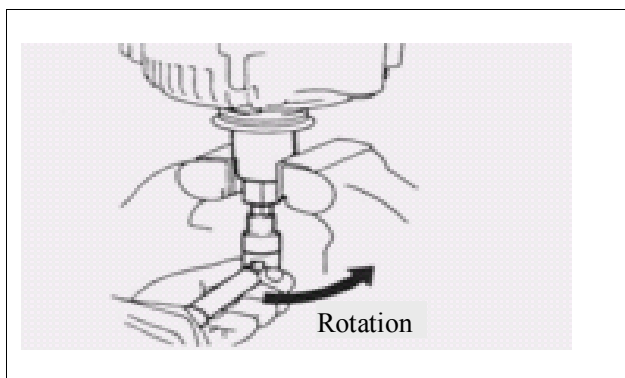

Figure 415
Loosen the pulley nut and rotate special tool (A) as shown in the figure. (See Fig. 415)